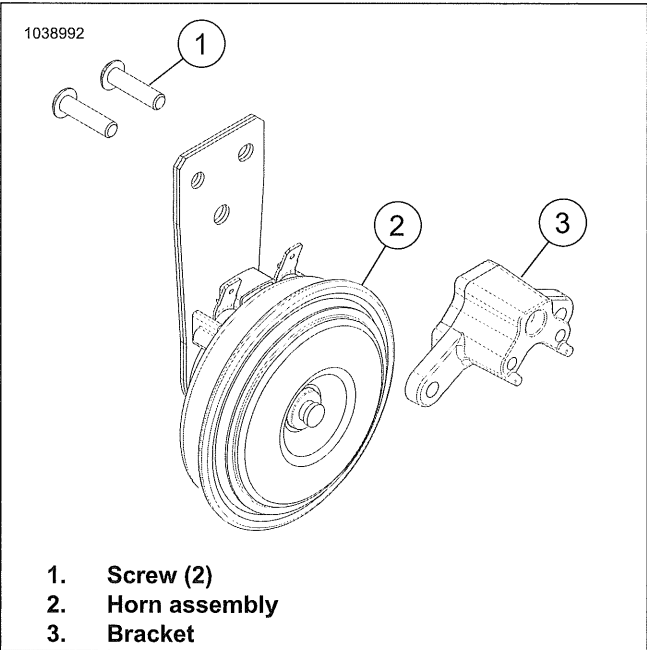

Figure 7-42. Horn Assembly
- 1. See Figure 7-42. Remove screws (1) and bracket (3).
- 1. See Figure 7-42. Install screws (1) and bracket (3). Tighten.